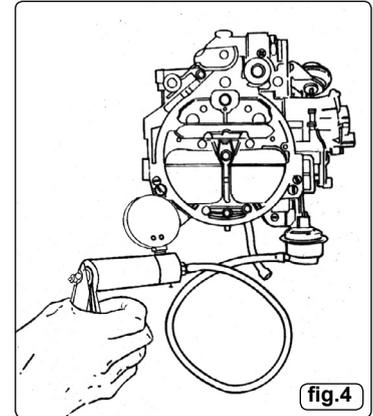

fig.4
5.4.1.3. Testing Vacuum Operated Carburettor Secondary Barrel. With the engine at normal operating temperature but not running, remove the vacuum line from the secondary diaphragm module. Connect the vacuum tester (fig.4), hold the throttle and secondary air valve flaps open. Operate the hand pump whilst observing free and easy opening of the secondary throttle butterfly.